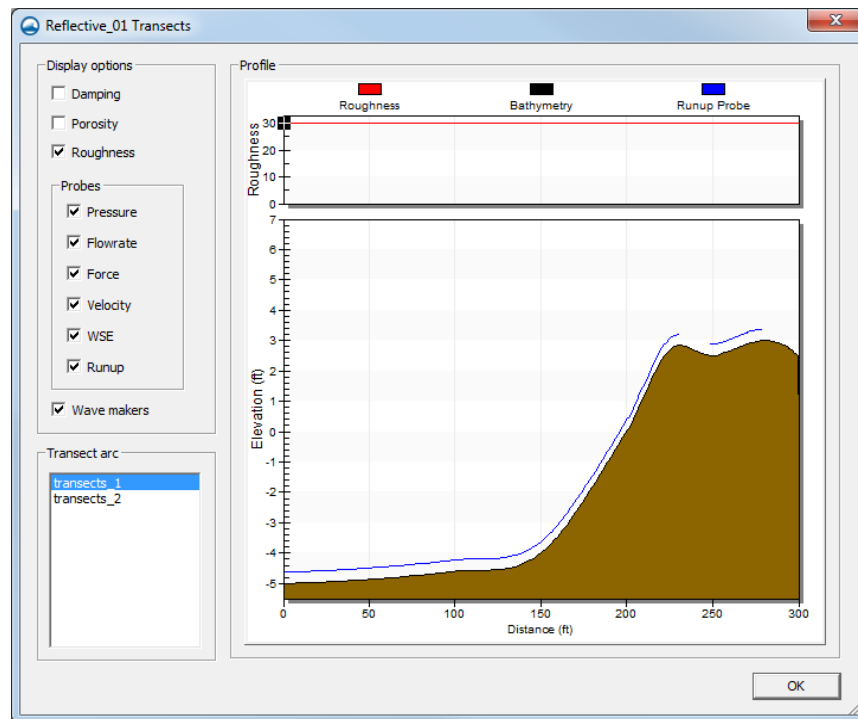

Figure 5 The Reflective_01 Transects dialog
4. Right-click “ Reflective_01” and select **View transects profile...** to bring up the *Reflective_01 Transects* dialog (Figure 5).